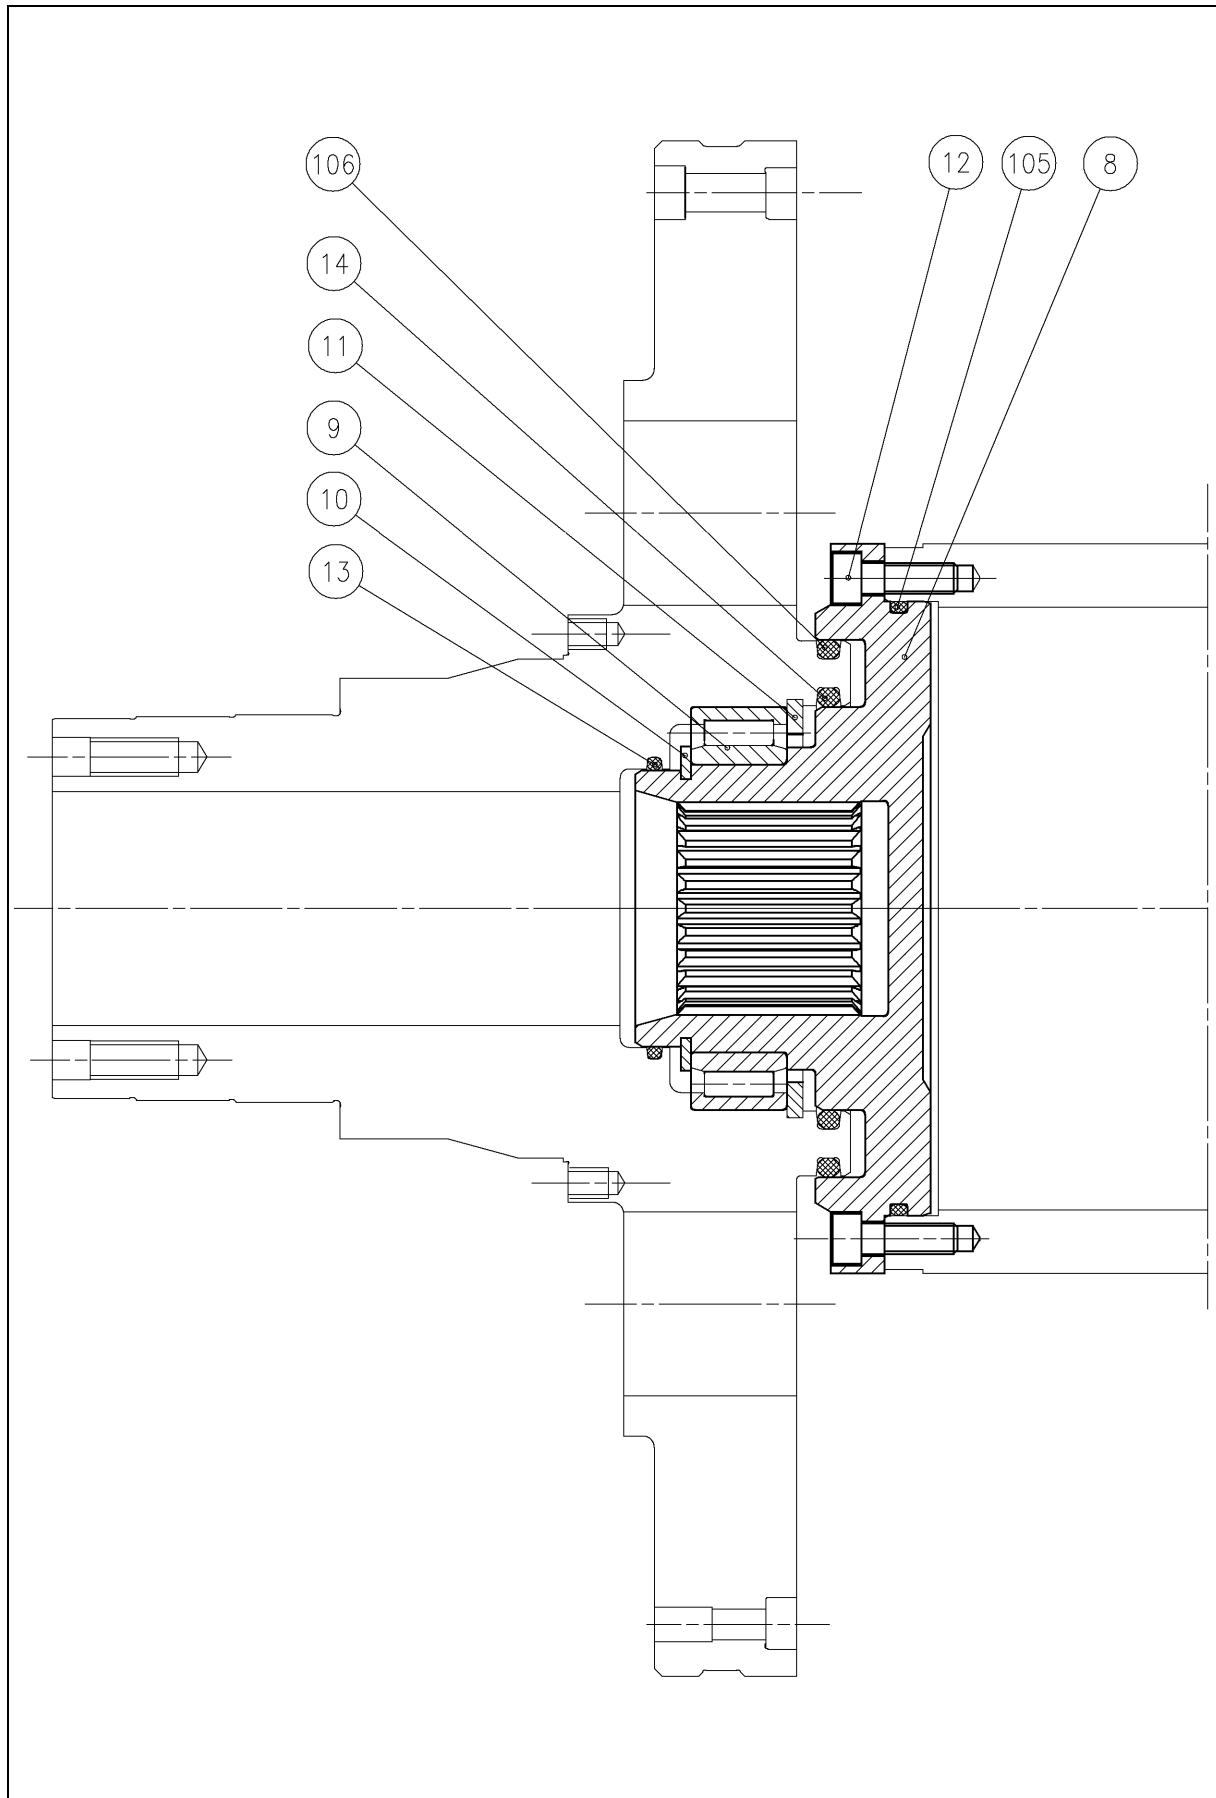

Figure 4.3.1
4.3 Conveyor Bearings (Fig. 4.3.1)
Remove the snap ring ([11] in figure 4.3.1).
(Fig. 4.3.1)